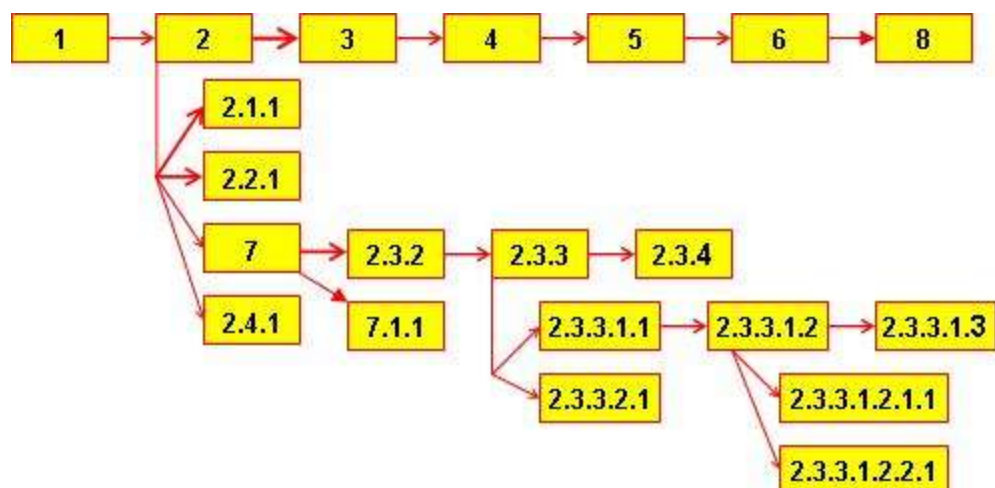

Figure 228: Manual History Manipulation
- 2) Select the entry from which you want to create a succeeding version and call the contextual menu of the required object by a right click of your mouse. The following contextual menus must be considered (*Please refer to the Figure 228*).